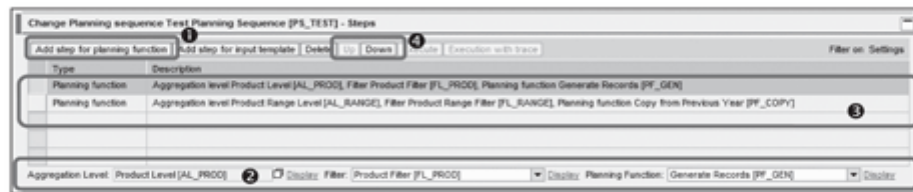

Figure 12.67 Defining Planning Sequence
2. In the next screen, define the planning sequence by adding different planning functions and defining the sequence of execution (Figure 12.67). By clicking on ADD STEP FOR PLANNING FUNCTION (❶), you create a new step in the planning sequence.